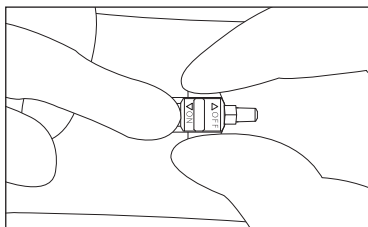

Figure 9
10. With the needle withdrawn, activate the FloSwitch (see Figure 9) to stop the flow of blood.